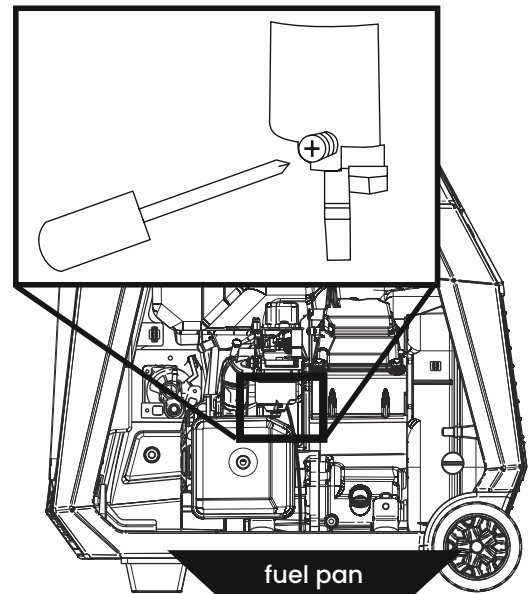

Figure 20: Loosen float bowl screw
3. Loosen the float bowl drain screw (see Figure 20) until fuel is seen draining from the float bowl.